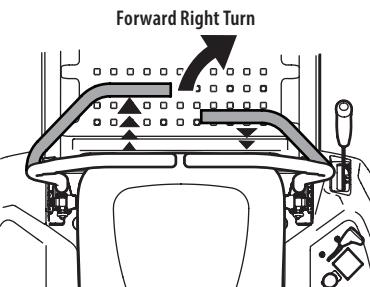

Figure 24
- To turn to the right, move the right drive control lever rearward of the left lever (Figure 24).